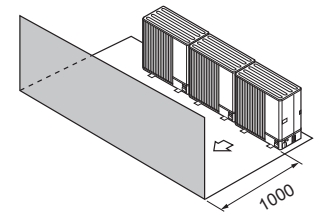

Fig. 1-14
- ③ Obstacles at front only (Fig. 1-14)